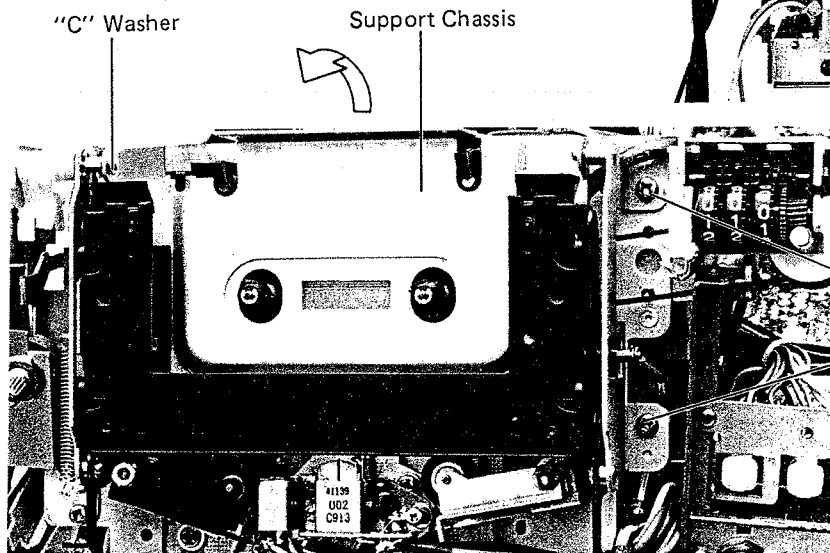

Figure 13
- (1) Remove one "C" washer and two screws marked "#" as shown in Figure 13.
- (2) Lay down the support chassis in the direction of the arrow as shown in Figure 13.
- (3) Remove the counter belt.